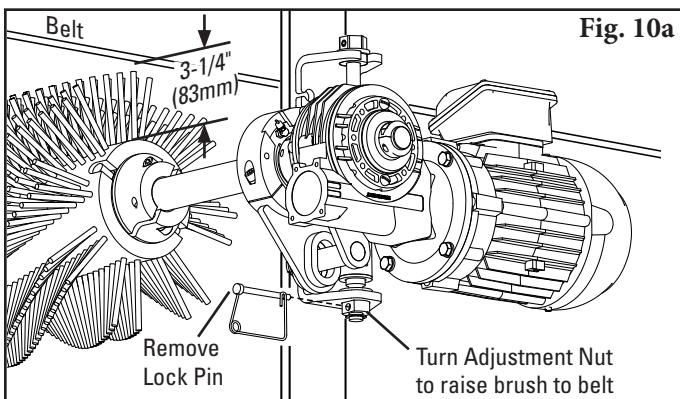
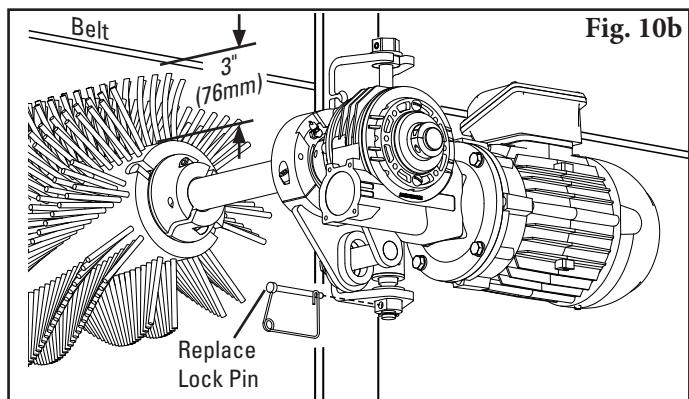

Fig. 10a
Fig. 10b
10. **Set brush height.** Remove lock pin from both adjustment brackets (Fig. 10a). Turn adjustment nuts to raise brush until brush bristles just touch belt surface. The brush hub should now be 3-1/4" (83mm) below the bottom of the belt. Once bristles are touching belt, turn adjustment nut an additional 1-1/2 turns while ensuring even adjustment on both sides. The bristles should be compressed against the belt and brush hub should now be 3" (76mm) below the bottom of the belt (Fig. 10b). Place lock pins back into adjusting brackets.